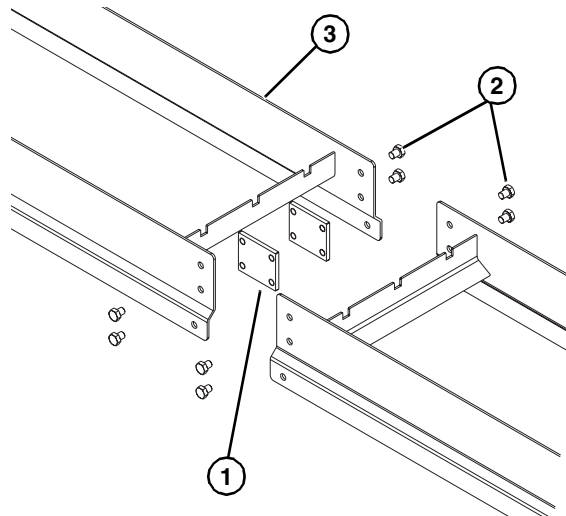

Figure 4
Typical Connecting Components (Figure 4).
2. Join both conveyor sections, and install plate frame connectors (Figure 4, item 1), and secure with M10x12 hex head cap screws (Figure 4, item 2) on both sides.